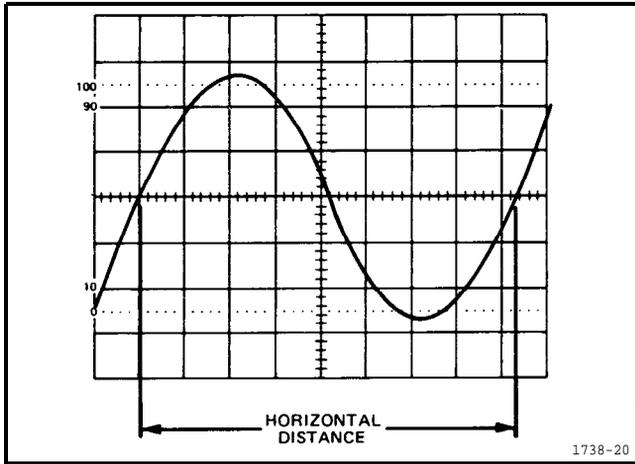

Figure 15. Time duration.
5. Position the display to place the time-measurement points on the center horizontal graticule line (see Figure 15).
EXAMPLE: The distance between the time-measurement points is 8.3 divisions (see Figure 15), and the SEC/DIV switch is set to 2 ins. The X10 Magnifier switch is pushed in (1 X magnification).
EXAMPLE: The signal in Figure 15 has a time duration of 16.6 ms.